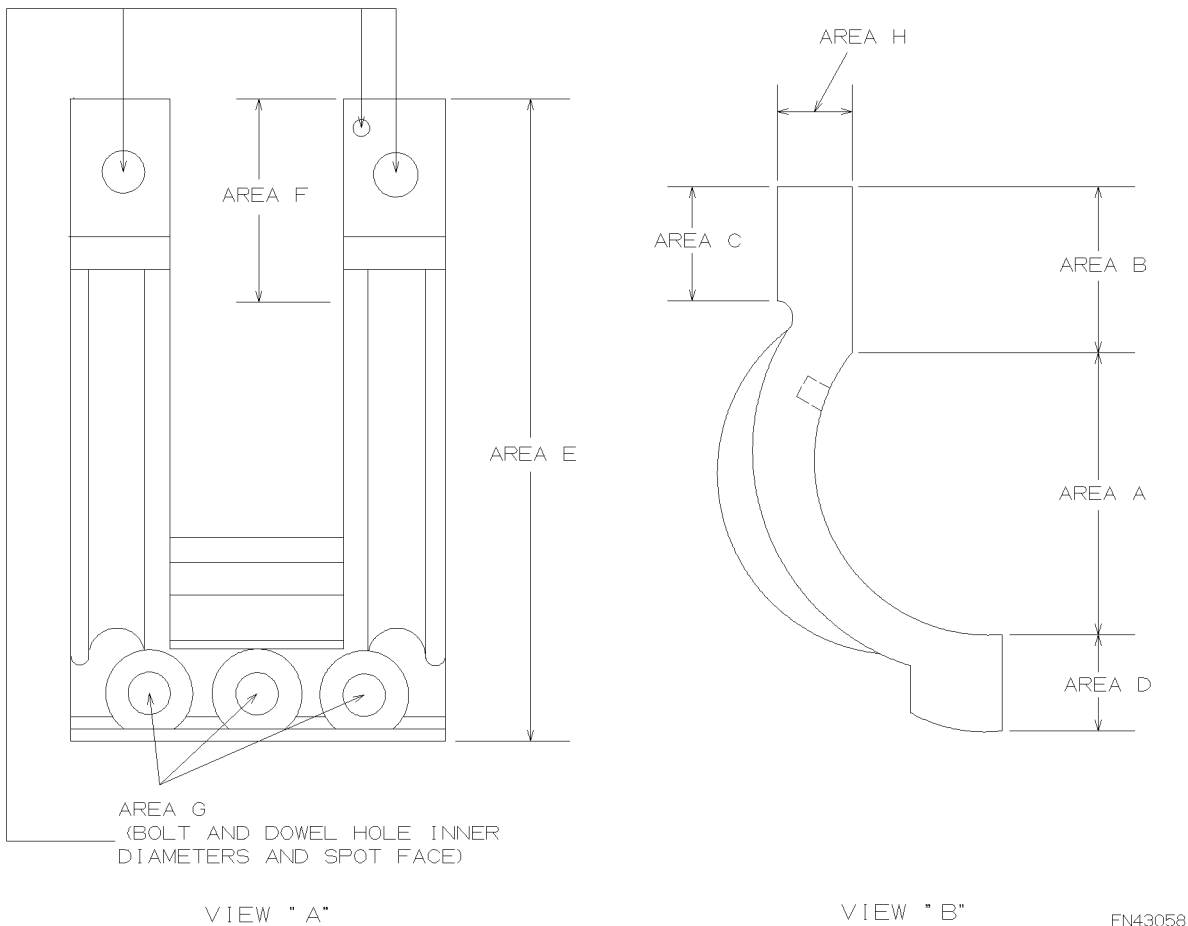

Figure 3-16. Inspection of Fork Rod Basket Machined Surfaces
2. Machined surfaces - (Ref. Figure 3-16).
- E. Crank bore area "A" - Up to three (3) surface irregularities (porosity, gas holes, slag or sand) of 1.52 mm (.060") in diameter and 0.76 mm (.030") deep in a 25.4 mm (1.00") diameter area are allowed. Up to two (2) adjacent areas are allowed, otherwise, areas must be separated by at least 50.8 mm (2.00") of clean material.